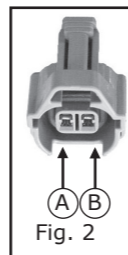

Fig. 2
**SA144J:** use this if the positive of the petrol injectors is on PIN A and the negative is on PIN B. Refer to figure 2.
**SA144JINV:** use this if the positive of the petrol injectors is on PIN B and the negative is on PIN A. Refer to figure 2.
Wiring type **SA144SJ** is equipped with JAPAN type pins and extended wiring for installation on SUBARU cars with a BOXER engine. It is used **ONLY** if the positive of the petrol injectors is on PIN B and the negative is on PIN A. Refer to figure 2.